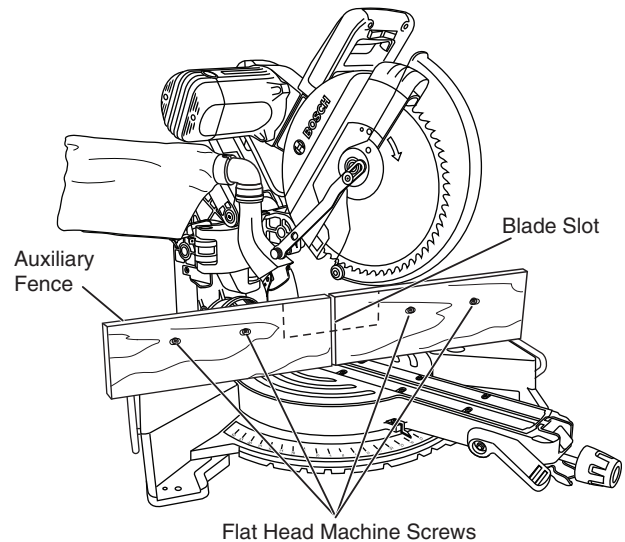

Figure 36. Auxiliary Fence
2. Place the auxiliary fence against the miter saw fence (figure 36). Check that auxiliary fence does not interfere with head assembly. Check for interference between the auxiliary fence and the lower blade guard. Make adjustments as necessary.
3. Mark the locations of the support holes on the wood from the back side of the fence (figure 36).